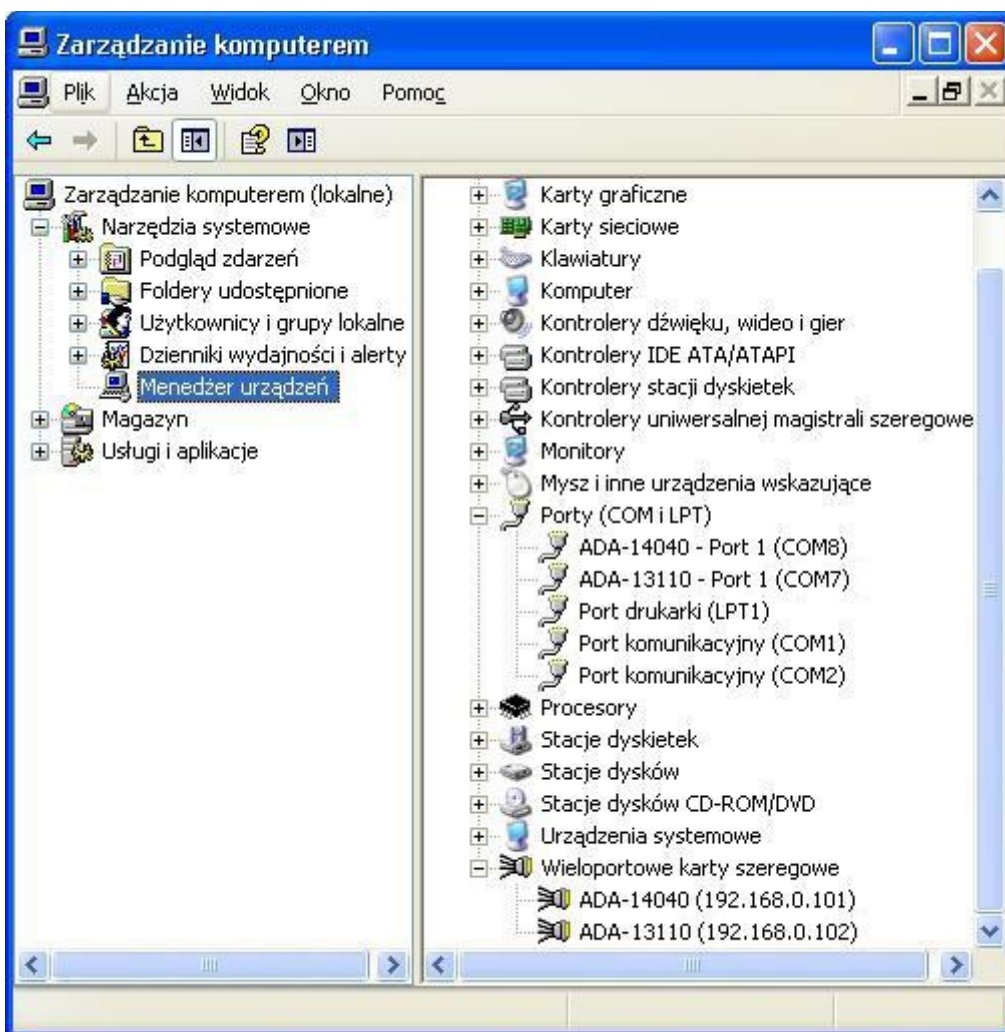

Fig 33. Devices view on Windows XP
3. Press [**Ports (COM & LPT)**]. On fig. 33 are shown available serial ports COM1, COM2 and **COM7** marked as **ADA-14040** which was created after installation of RealPort driver.